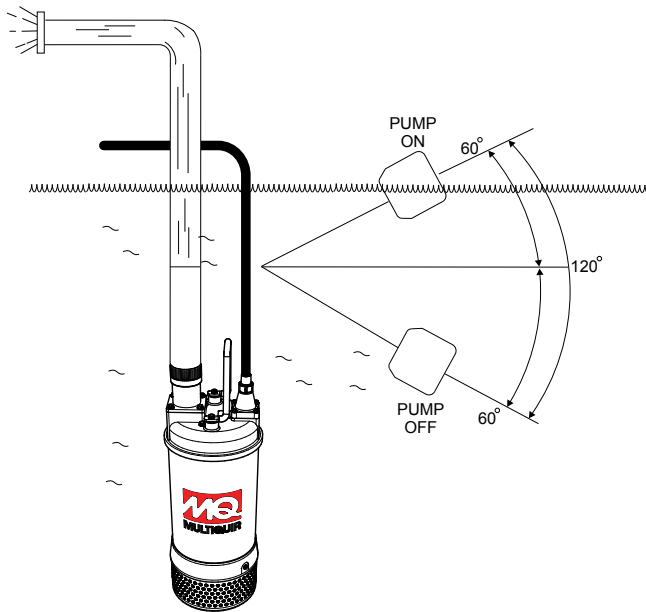
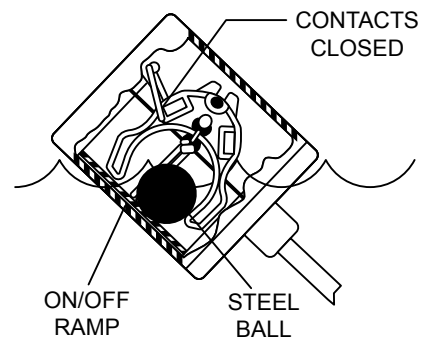
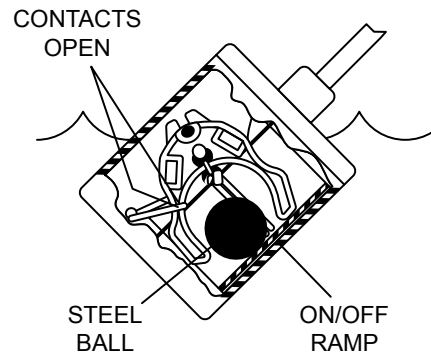

Figure 3. Pumping Range (Float Switch)
Figure 4. Float Switch (Closed)
Figure 5. Float Switch (Open)
The mechanical float switch control will turn **ON** (close) when the float tips 45° above -horizontal, indicating a high level, and turns **OFF** (opens) when the float switch drops 45° below horizontal. Reference Figure 4 and Figure 5. Maximum pumping range is 120 degrees. See Figure 3 below.
1. Determine the required **cord tether length** as shown in Figure 3 and Table 3.
3. Determine the tether length of the float switch wires then secure float switch wires to pump discharge hose. See Figure 3 and Table 3 to determine the pumping range.